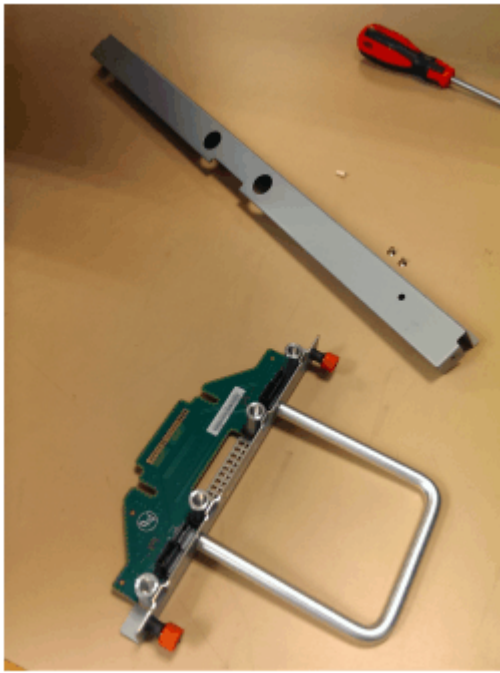

Figure 81. FIB parts for the chassis
1. Assemble the new FIB, cover, and the cover screws (shown in Figure 81 on page 77) in a safe location.